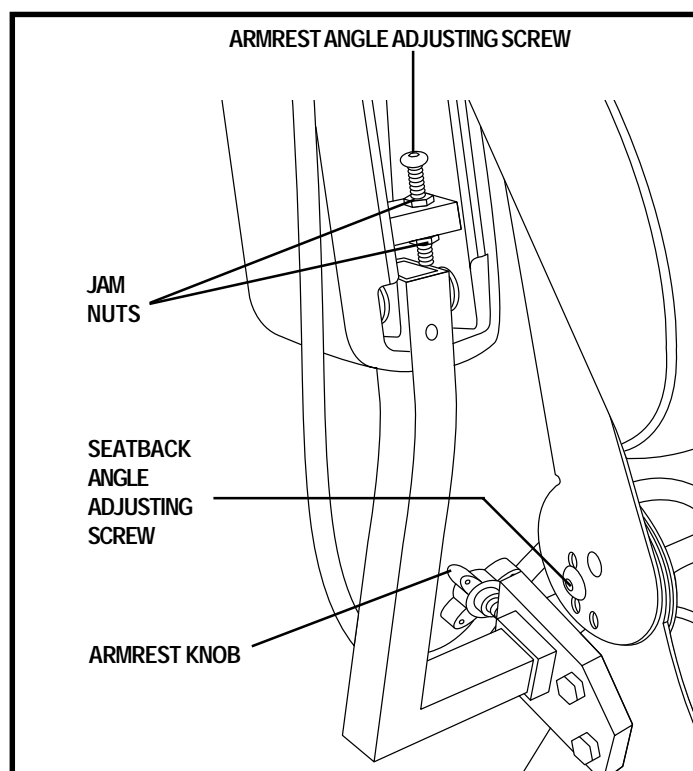

Figure 18. Seatback Angle Adjustment
1. Remove the adjusting screws from each seat hinge. See figure 18.
1. Locate the two armrest knobs on each side of the armrest receiver bracket. See figure 18.
1. Lift the armrest straight up so that it is perpendicular to the floor. See figure 18.